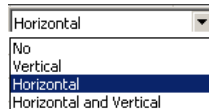

Figure 5-6. Change Localization Status
- Click in the *Use* column and select the corresponding localization type (Figure 5-6).